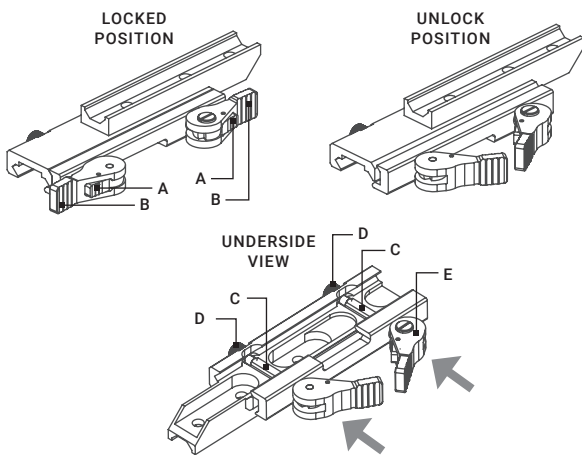

FIGURE 2-5. MOUNT
To install the Rattler on a Picatinny/ Weaver rail, perform the following (Figure 2-5) :
2. With the clamping device unlocked (as shown in Figure 2-5), push the cam (E) towards the arrow, which will cause the nut (D) to slide out of its hole.
3. To tighten/ loosen the clamping device, push down on the cam (E) and turn the nut (D) CW/ CCW respectively, in one-two increments (see note below).